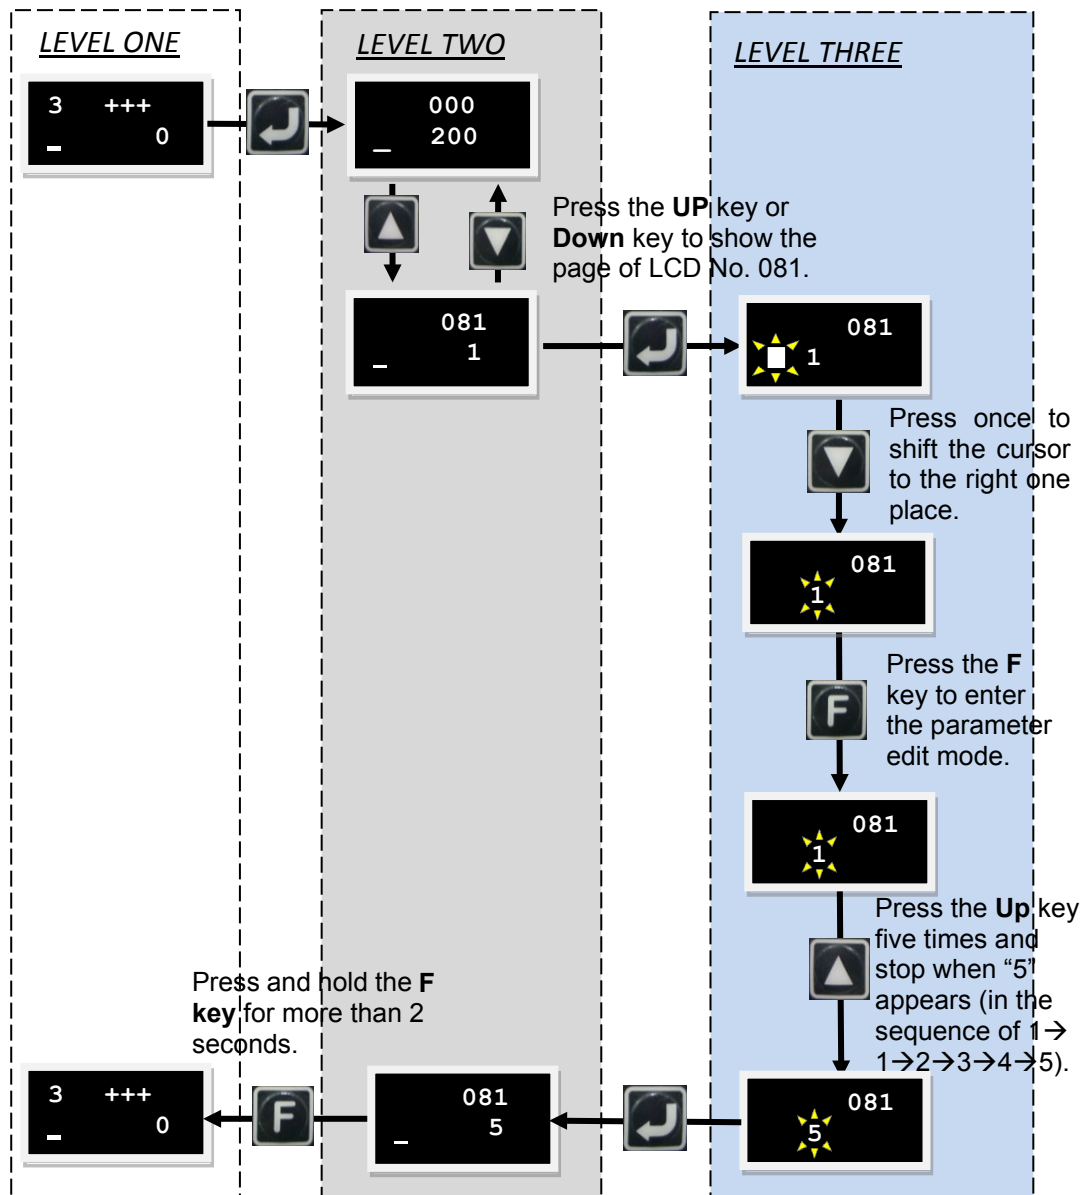

Figure 7.5.3.1 Operation example of advanced parameter zone
- Step 3: After the parameter is edited, press the Enter key to complete the editing, return to the edited parameter, and display the edited parameter. To leave the advanced parameter zone, press and hold the F key for more than 2 seconds, as shown in figure 7.5.3.1.